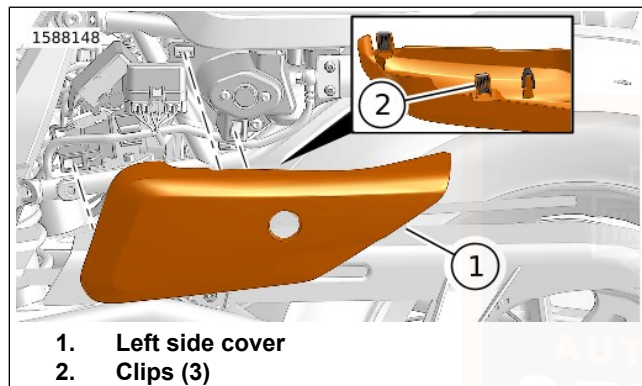

Figure 63. Left Side Cover
1. See Figure 63. Pull left side cover (1) with clips (2) away from vehicle.